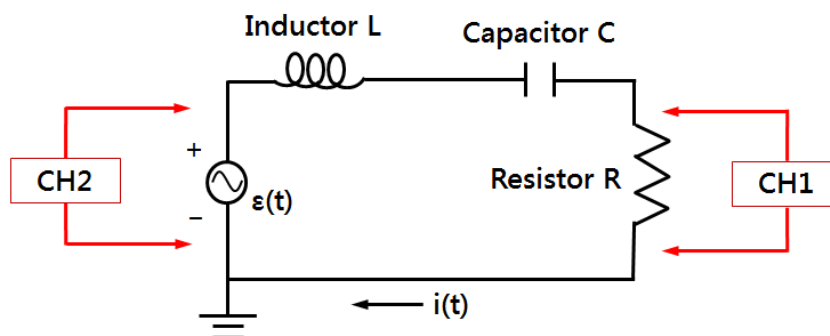

Figure 8. Circuit diagram of an RLC series circuit. (Force damping)
1. Set up the apparatus as shown in figure 8.